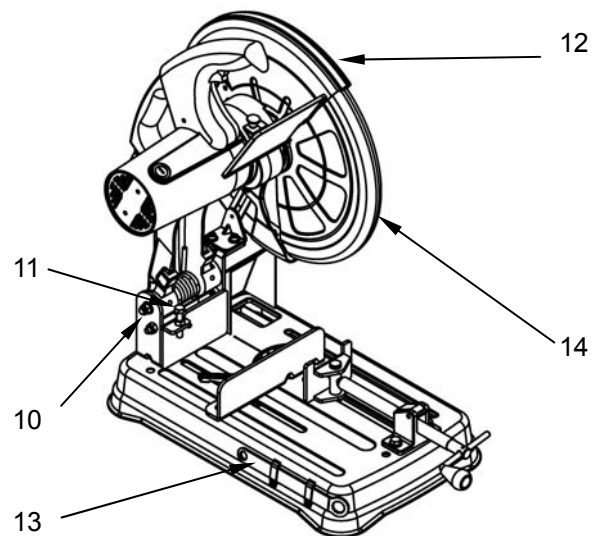

Fig.7
10. Up stop Screws- In the full up position of the power head. These screws prevent over rotation of the power head as shown Fig. 7.
11. Down stop- In the down (full cut) position, the pivot arm hits an adjustable stop on the pivot as shown Fig. 7.
12. Upper Guard- Protects users from cutter contact on upper portion of blade. Please Do Not touch after long time use because the temperature of guard will raise cause of the dust as shown Fig. 7.
13. Arbor Wrench- Used for blade changing and fence angular adjustments as shown Fig. 7.
14. Blade Guard- Easy to use with excellent safety as shown Fig. 7.